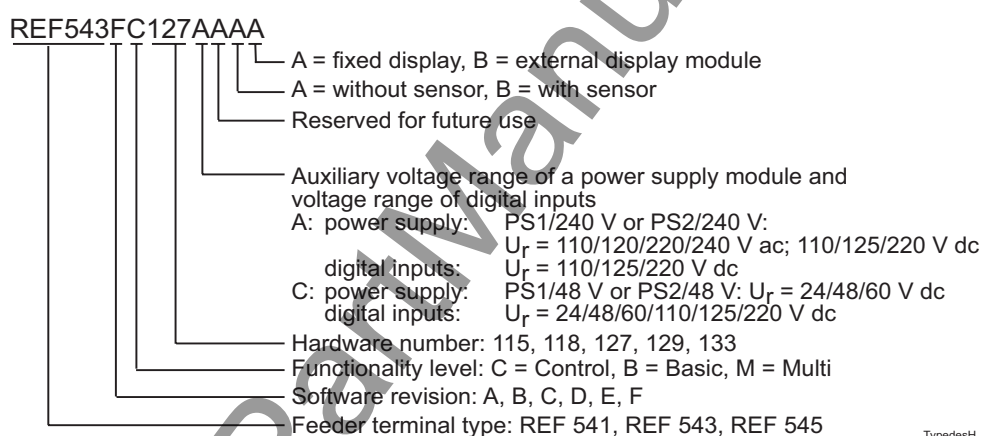

Fig. 6.1.-1 Order number of REF 54_
- Order number (see Figure 6.1.-1 below)
Each REF 54_ feeder terminal has a specific order number that identifies the feeder terminal type as well as the hardware and the software as described in Figure 6.1.-1 below. The order number is labelled on the marking strip on the front panel of the feeder terminal delivered, e.g. Order No: REF543FC127AAAA.